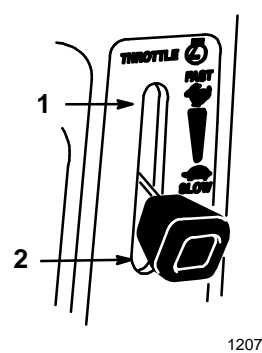

Figure 5
5. Move throttle lever to “FAST” (Fig. 5).
7. After the engine starts, move the choke lever to “OFF” and slowly move the throttle to the desired setting (Fig. 5). If the engine stalls or hesitates, move the choke lever back to “ON” for a few seconds. Then move the throttle lever to desired setting. Repeat this as required.
1. Move the throttle lever to “SLOW” (Fig. 5).